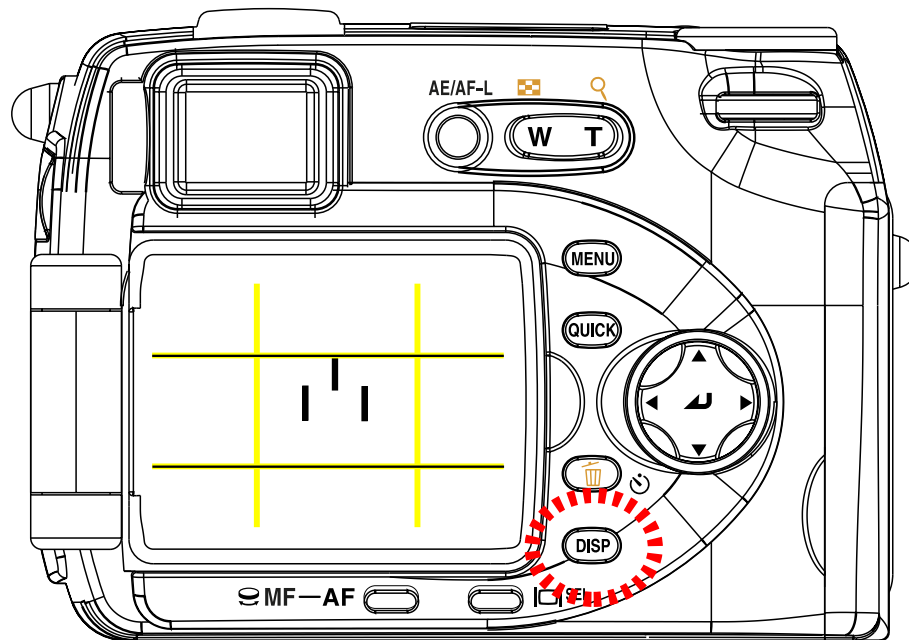

Fig.1
- ② Set the PAF position adjustment chart and the camera correctly.
- Fit the guideline (yellow) of the camera monitor to the horizontal line (black) of the chart correctly not to be deviated or inclined. (Fig. 1)